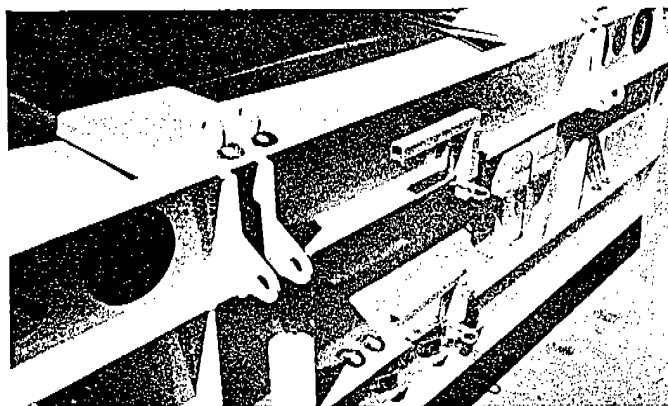

Fig. 83
- Adjust the position of the two walkway frame attachment bars on the back end of the trailer frame. Lift the bars out of the sockets and replace them in the same sockets with the arms flat against the back of the trailer. *Snap Key in Place*. (Fig. 83)